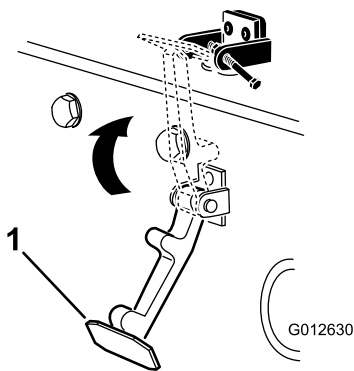

Figure 5
7. Hook the latch onto the hood-latch bracket (Figure 5).